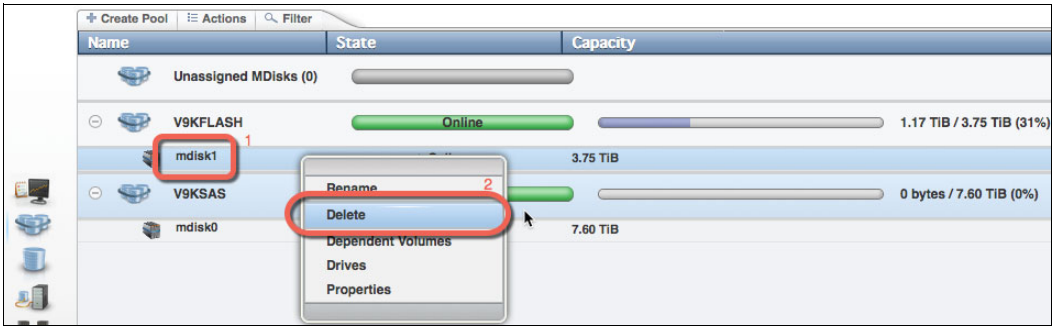

Figure 7-29 Delete the MDisk from the pool
4. Right-click the managed disk (mdisk1) and select **Delete** (Figure 7-29).